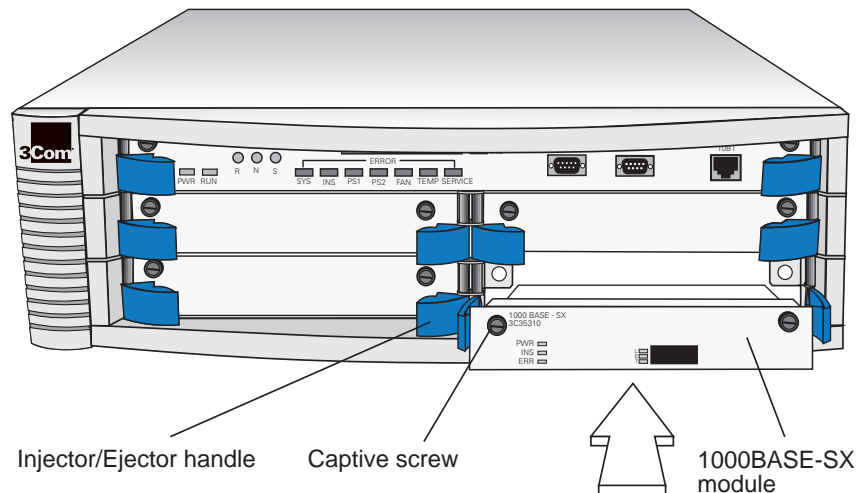

Figure 2 Installing the 1000BASE-SX Module
- 3 With the injector/ejector handles in the outward position, place the module between the guides of the selected slot and gently slide it into the chassis, as shown in Figure 2.